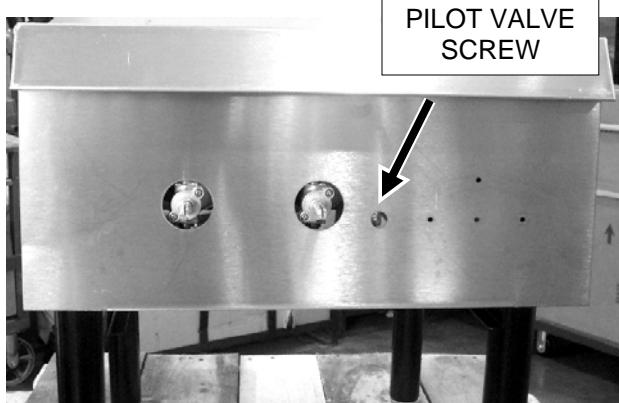

Fig. 1
3. Light standing pilot with a lit taper. Adjust pilot to $\frac{1}{4}$ " high flame, if necessary, by turning pilot valve adjusting screw (see Fig. 1) counterclockwise to increase or clockwise to decrease flame.